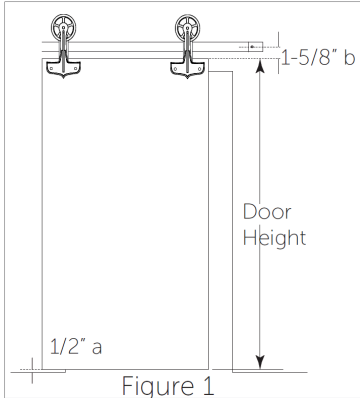

Figure 1
2. Place the hanger on the door (Figure 1).
1. To determine where the track should be installed, first measure the height of the door, then add 2-1/8" to the door height. 1/2" (a) will be for the clearance between the bottom edge of the door and the floor. 1-5/8" (b) will be from the top edge of the door to the center of the track. (Figure 1).